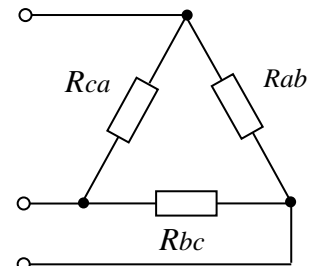

Fig. 3.7
9. Write down the phases' voltages in a complex form a for the three-phase power source with linear voltage $V_L = 380\text{ V}$. Three groups of consumers are connected to this source. The consumers phases' powers are correspondingly: $P_{ab} = 80\text{W}$, $P_{bc} = 100\text{W}$, $P_{ca} = 20\text{W}$ (fig. 3.7). Calculate the phases' c resistances, the phase and the linear complex currents. Define b the power of the circuit .